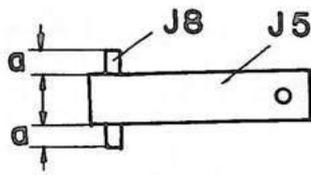

Fig. 102
- (b) When the handle (J5) cannot be contained into the body or come off, check "a" gaps of the shaft (J8) for evenness. Correct if they are not balanced. The shaft (J8) is secured on the handle (J5) with adhesive (Arone Alpha). (Fig. 102)